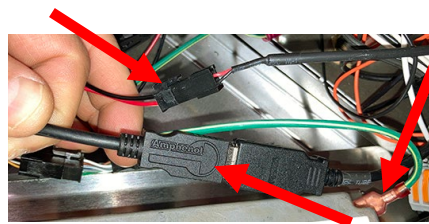

Figure 33
61. Attach the speaker wire, the ground wire and the USB with the sleeve to the USB extension, if it is in the far-left position on the fryer (see Figure 33).